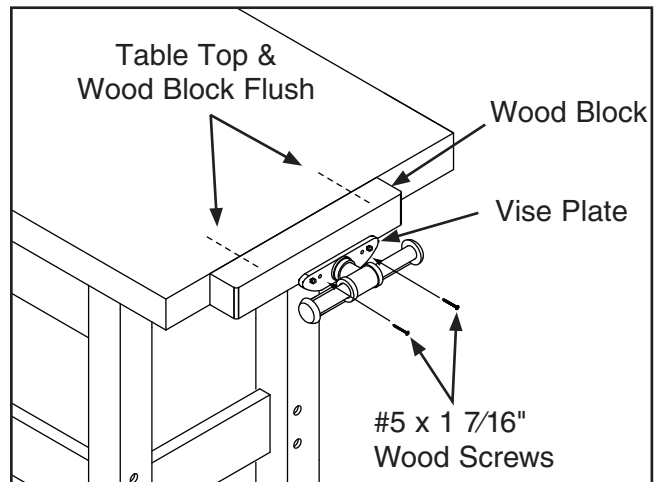

Figure 9. Installing vise.
- Adjust the top of the wood block flush with the surface of the table using a straightedge, as shown in Figure 9.
- Secure the vise plate to the wood block with two #5 x $1\frac{7}{16}$ " wood screws (Figure 9).